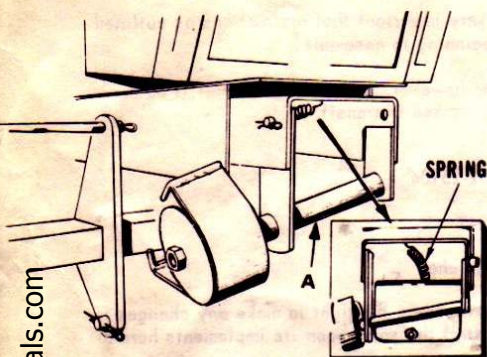

FIG. 2
Raise front channel cover, and slip idler shaft assembly (A), into front of tractor frame and hook spring into hole in rear of front axle bracket and hole in front of idler frame. Refer to figure 2.